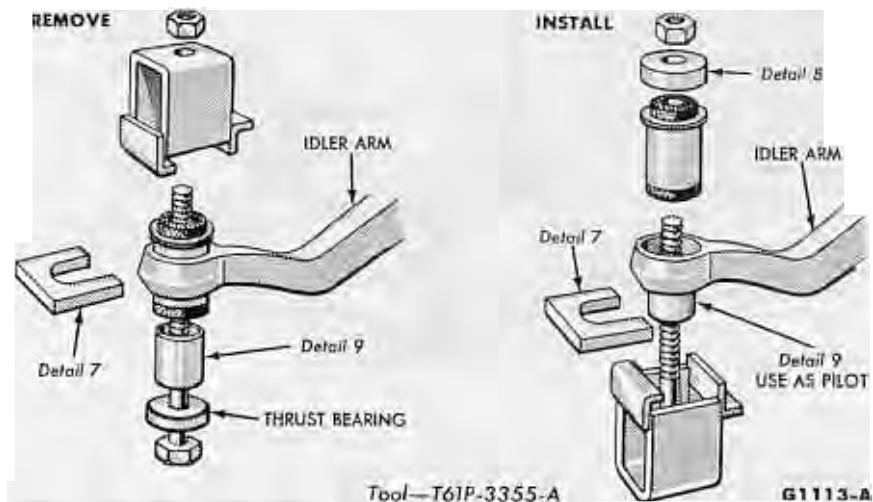

FIG. 17—Replacing Idler Arm Bushings—Typical
3. Place the idler arm in a vise and replace the bushings as shown in Fig. 17.